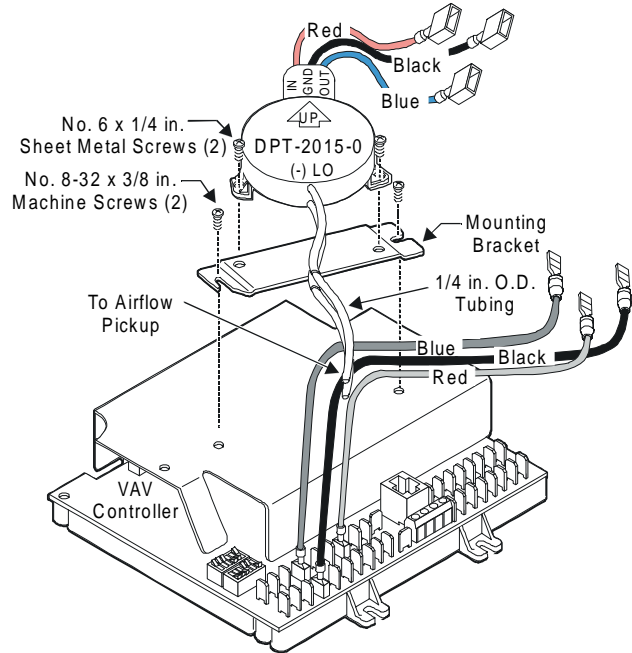

Figure 4: Installing the DPT-2015-0 on a VAV Controller
- Attach the DPT-2015-0 to the mounting bracket with the two No. 6 x 1/4 in. sheet metal screws. (See Figure 4.)